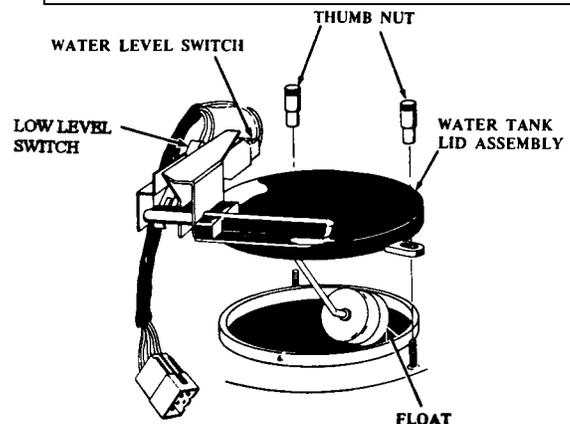

FIGURE 9
4. If little or no water is available, adjust the low level switch. See **FIGURE 9**